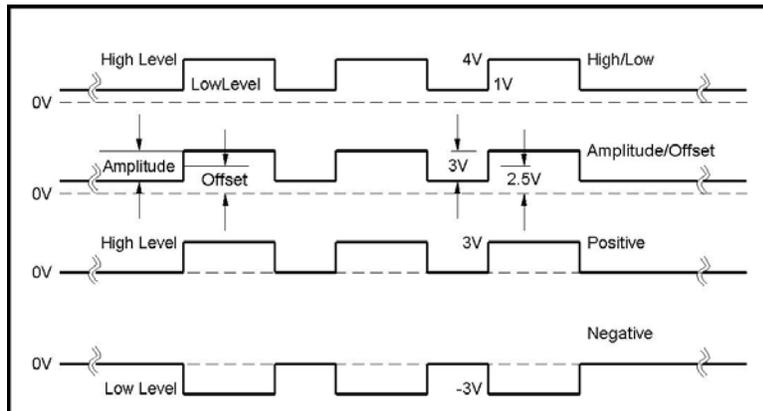

Figure 3-39, Amplitude Level Modes Options
Using the PM8572A as your pulse source, you have four options to set up the pulse levels, these are shown in Figure 3-39 and explained below:
1. **High/Low Levels.** This is the default option. Using this mode, you program the high and the low levels directly and let the instrument set the internal amplitude and offset according to your selection. The maximum amplitude that can be programmed is 16 V peak to peak. To achieve this level, program the low level to -8 V and the high level to +8 V. Note that although the specified maximum peak to peak amplitude is 16 V, the high and low level can not exceed the  $\pm 8$  V rail limits. Also note that the amplitude level is specified when the pulse is applied on a  $50\Omega$  load impedance. The only way to exceed the peak to peak rail limitation is by increasing the load impedance but then expect degradation of the pulse shape. The example in Figure 3-39 shows the high level set at 4 V and the low level set at 1 V and hence the resulting peak-to-peak level is 3 V.
2. **Amplitude/Offset.** This option allows separate modification of the amplitude and the offset. This option is very useful when you want to vary the vertical position of the pulse but hold the peak to peak amplitude level fixed. Obviously, when the amplitude is set to 16 Vp-p, offsetting the signal is not possible because of the  $\pm 8$  V rail limits. The example in Figure 3-39 shows the amplitude set at 3 V and the low level set at 2.5 V and hence the resulting waveform is exactly as was programmed in the high/low level programming example.
3. **Positive.** This option is very useful when you want to vary the positive position of the pulse but hold the low level fixed at the 0 V level. The example in Figure 3-39 shows the high level set at 3 V and the low level fixed at 0 V. Modification of the high level will not alter the low level position. Note that in this case the peak to peak amplitude is limited to 8 Vp-p because the high level setting can not exceed the +8 V rail limit.
4. **Negative.** This option is very useful when you want to vary the negative position of the pulse but hold the high level fixed at the 0 V level. The example in Figure 3-39 shows the low level set at -3 V and the high level fixed at 0 V. Modification of the low level will not alter the high level position. Note that in this case the peak to peak amplitude is limited to 8 Vp-p because the low level setting can not exceed the -8 V rail limit.